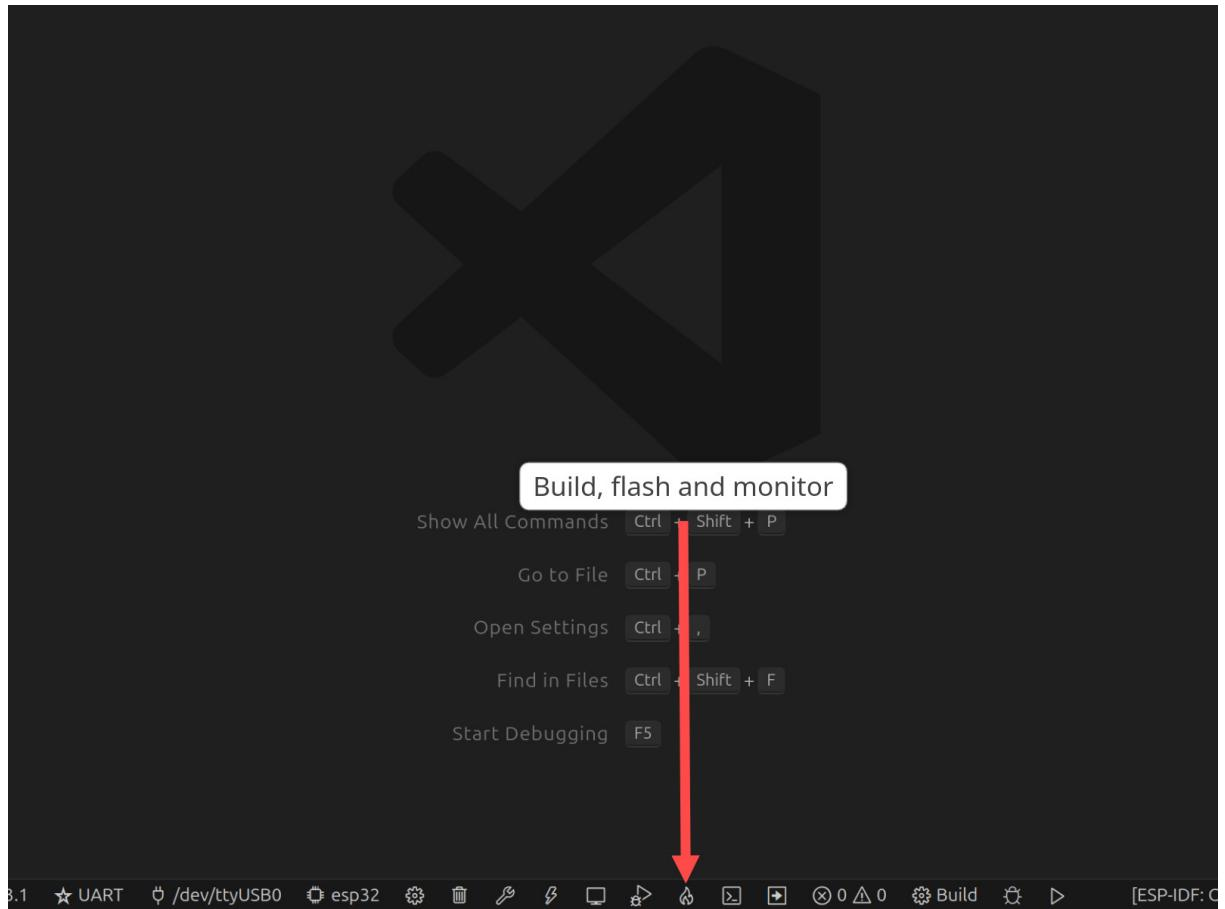

Figura 9: Botón: Build, flash and monitor.
- Presionar **Build, flash and monitor**. Ver la figura 9.